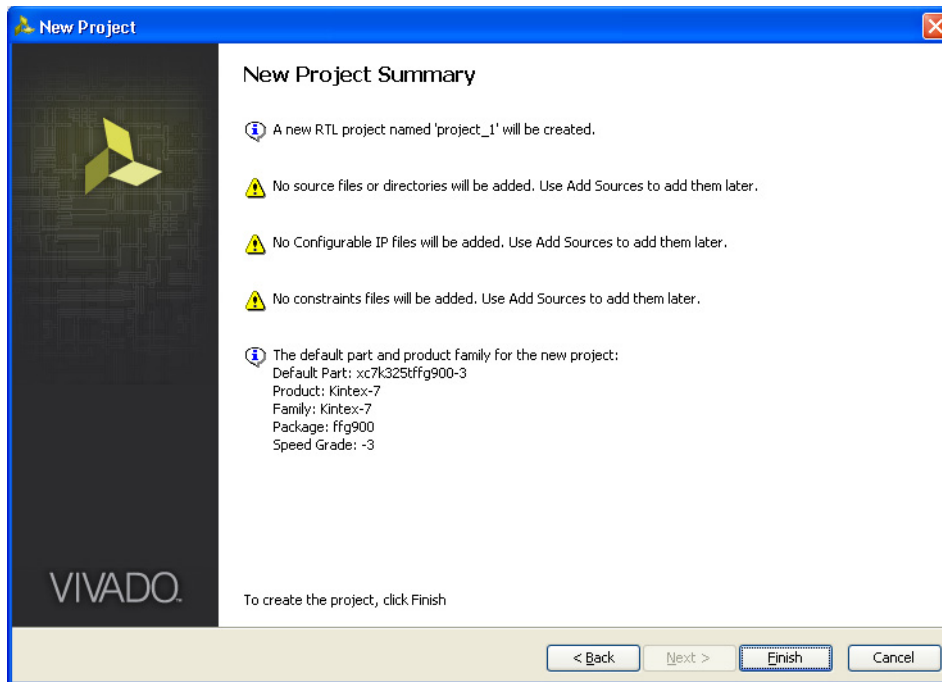

Figure 4-11: New Project Summary
9. Click **Next** to open the New Project Summary page (Figure 4-11). This includes the summary of selected project details.